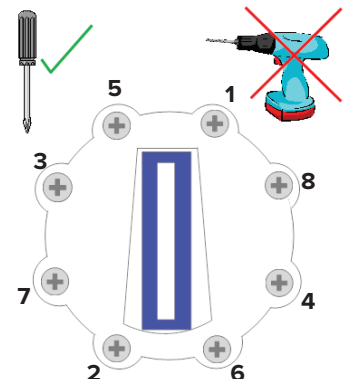

Fig.1.3
- Using a hand Phillips-head screwdriver, slowly tighten the screws in a diagonal pattern, per the sequence shown in Fig.1.3. **Under no circumstances should an electric screwdriver or impact driver be used.** Do not fully tighten one screw before proceeding to the next, i.e., pull them down slowly multiple times to avoid stressing and cracking the lid. Screws should be tightened to a final torque of 25 inch / pounds or 2.8 Nm.